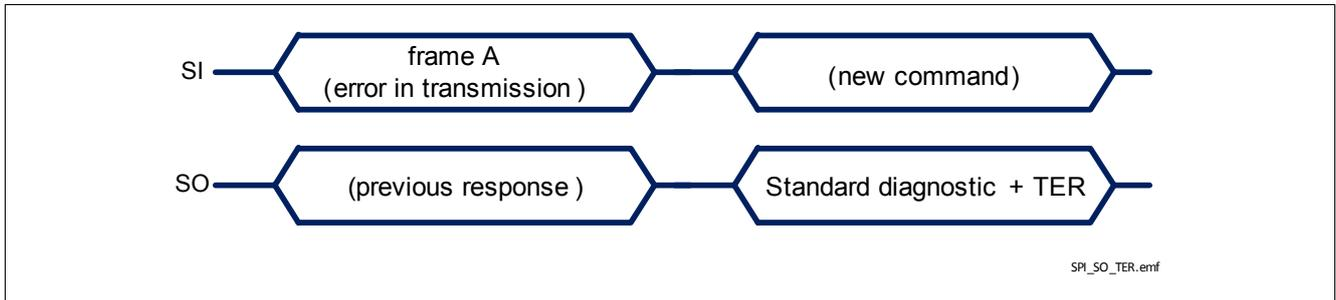

Figure 37 TLE75602-EMH response after a error in transmission
- in case an error in transmission happened during the previous frame (for instance, the clock pulses were not multiple of 8 with a minimum of 16 bits), shown in Figure 37